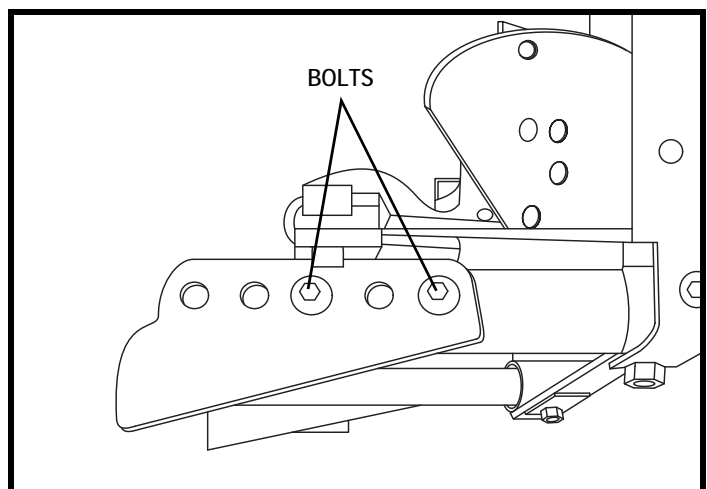

Figure 55. Kids FAST Glide Rest in Position 2
- For seat depths 10 in. (25.4 cm) or greater, glide rests can be installed in position 2. See figure 55.